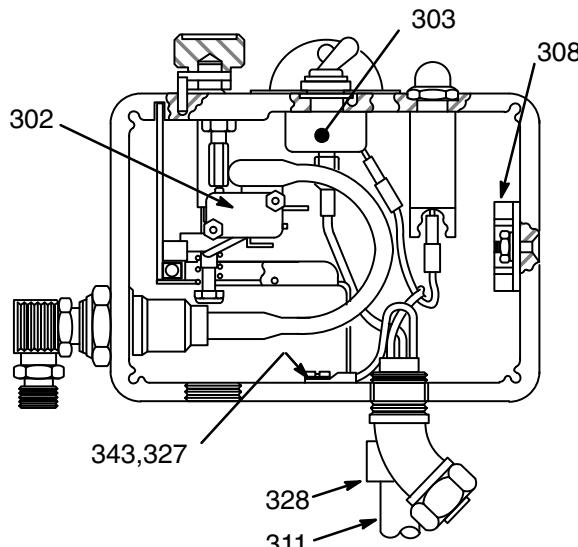

Fig 22-1
See Fig 22-1.
2. Use a needle nose pliers to disconnect the upper terminal wire from the microswitch (302) for ease in removing the ON/OFF switch (303). See Fig 22-1.
3. Use pliers to disconnect the two black wires from the ON/OFF switch (303). See Fig 22-1.
4. Use a 5/8 in. socket wrench to loosen and remove the nut and rubber boot (304) from the top of the pressure control box. Remove the switch guard (305).